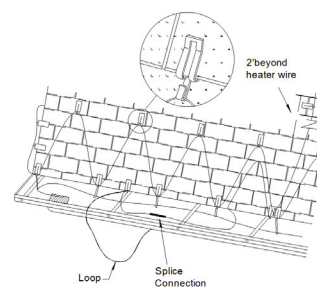

Fig.3 Sensor Wire Application with Gutter
2. Lay the Splice Connection and sensor wire along the bottom of the gutter within two inches of the roof de-icing cable. *Route the sensor wire over at least one gutter support strap or nail, in order to sense the full depth of the gutter*, then route along one triangular weave of the heating cable on the roof as per diagram. At the peak of the second triangle, attach the sensor wire up the roof, at least 2 feet (60.96 cm) past the heater wire as illustrated. Use the clips provided to secure the sensor wire to the roof. Gently squeeze the coated end of the clip around the sensor wire. See Fig. 3. Use one of the included spacers, create a drip loop on the probe lead on the housing end.